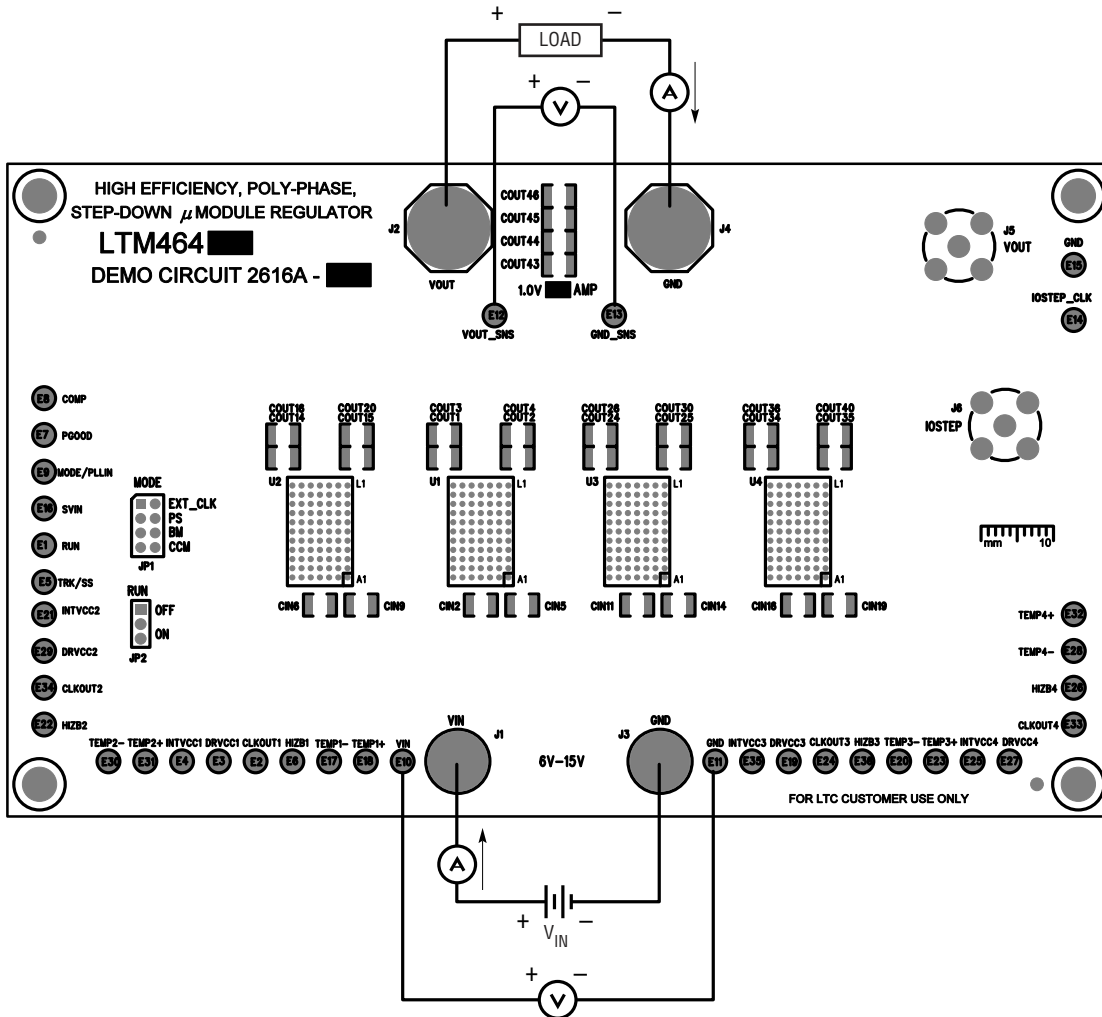

Figure 1. Measurement Setup of DC2616A-D
Demonstration circuit DC2616A-D is an easy way to evaluate the performance of polyphase operation of the LTM4647EY. Due to the high input/output current, the user should select the proper input supply/load/cable which can sustain the full load operation. Please refer to Figure 1 for proper measurement equipment setup and follow the procedure below:
2. With power off, connect the input power supply, load and meters as shown in Figure 1. Preset the load to 0A and  $V_{IN}$  supply to 12V.